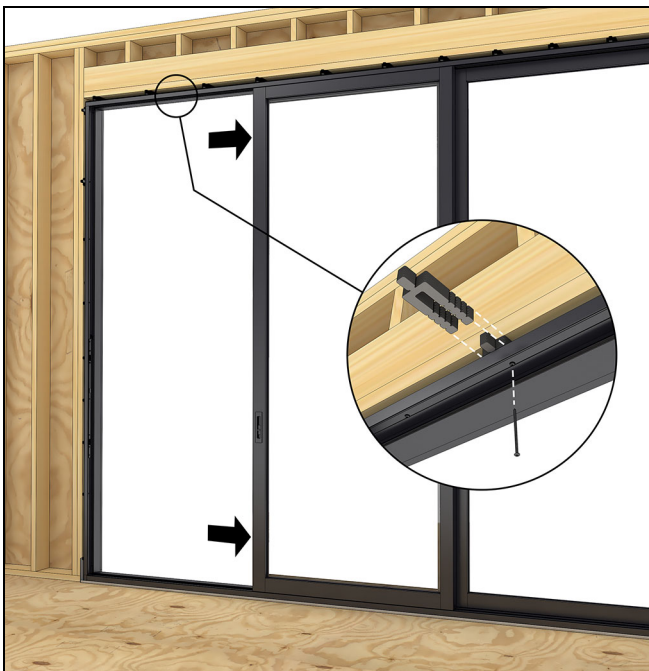

Figure 109
11. Open the operator panel, then shim, predrill with a 3/16" bit and drive the #10 x 3" color matched screws into the RO through the pre-drilled holes in the head jamb frame retainer. See Figure 109.